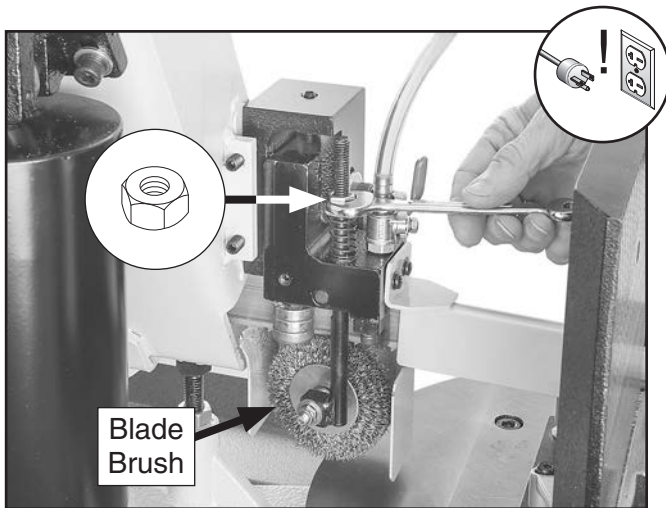

Figure 93. Example of adjusting blade brush.
2. Adjust hex nut shown in **Figure 93** until blade extends $\frac{1}{8}$ " into bristles of brush.